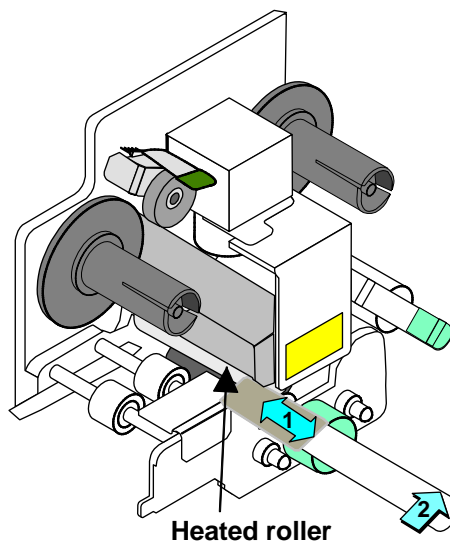

Figure 4-13: Clean the heated roller
- a Push the cleaning stick back and forth on the heated roller (step 1 in Figure 4-13).
- b Use the cleaning stick to move the heated roller and make another area available for cleaning (step 2 in Figure 4-13).